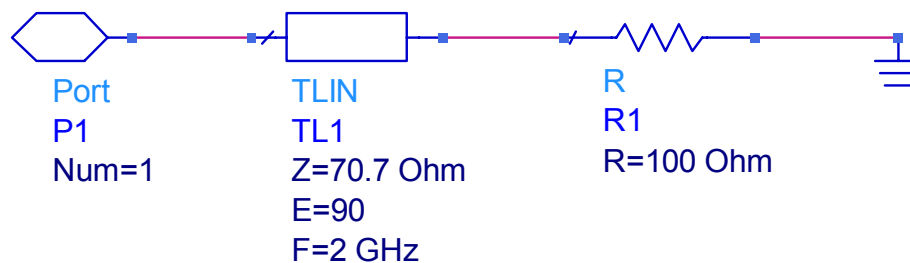

Figure 4. Illustration of the matcht_fake schematic described in the text.
- Click on the Component Palette List pull-down menu and select the TLines-Ideal list. Click on the TLIN button on the upper left-hand side of the window and place an ideal transmission line section in the schematic. Change the characteristic impedance (Z) to 70.7 Ohms, the electrical length (E) to 90 degrees, and the reference frequency (F) to 2 GHz.
- Click on the Port button (3 to the left of the Library button) and place a port on the left-hand side of the circuit. Now use the Wire tool to connect the elements. Your schematic should resemble Figure 4. **SAVE YOUR DESIGN.**